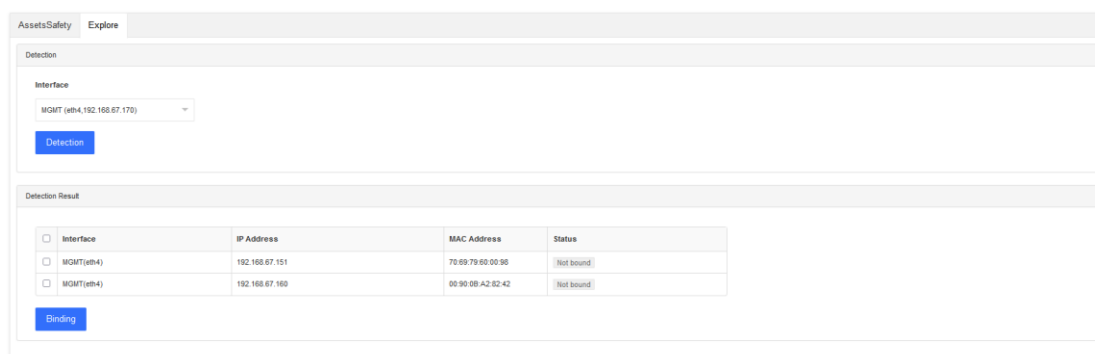

Figure 57
2. Binding: Bind the detected IP address with the MAC address. If the user does not want to bind or handle the detection result, select the result to be bound and click Bind, as shown in Figure 57: